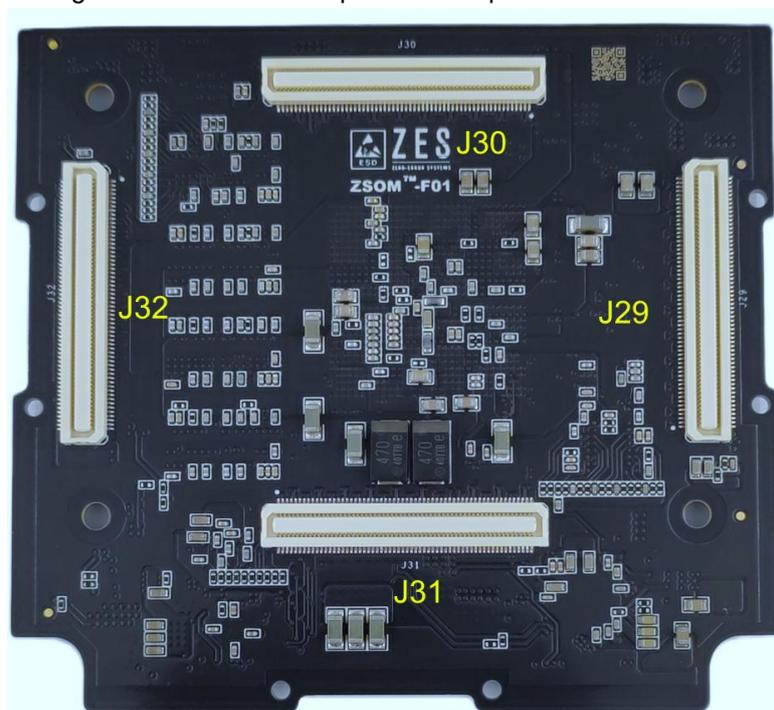

Figure 3: Bottom View
- Bottom View (Figure 3): Showing the four 120-pin board-to-board expansion connectors (J29–J32) along with mounting holes and additional passive components.